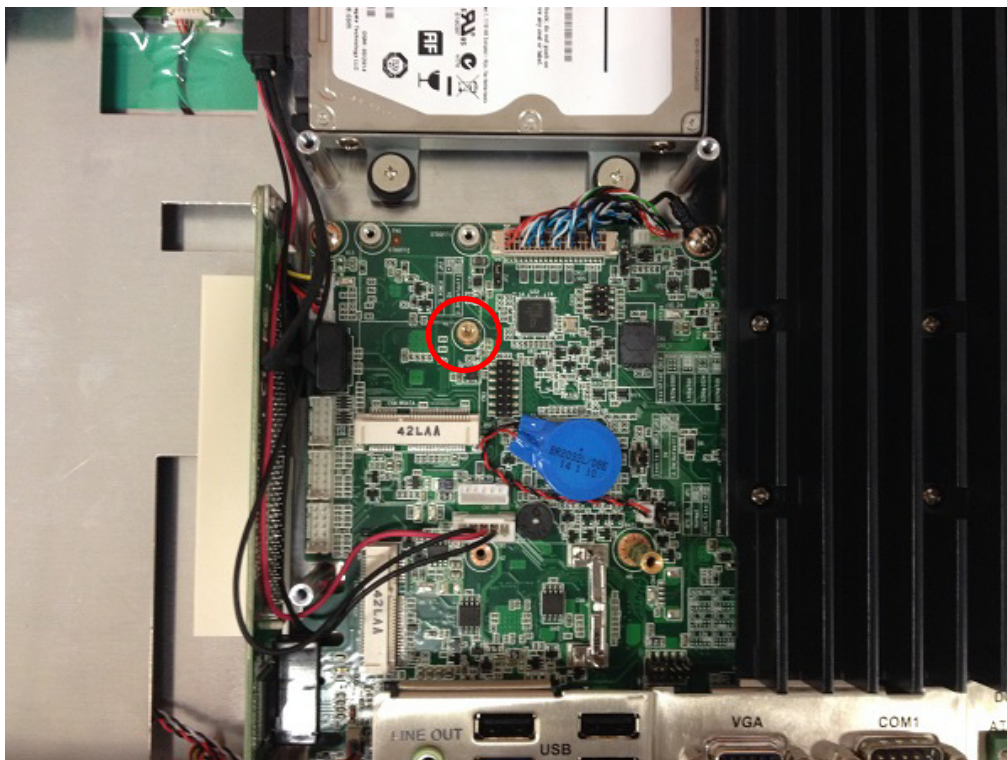
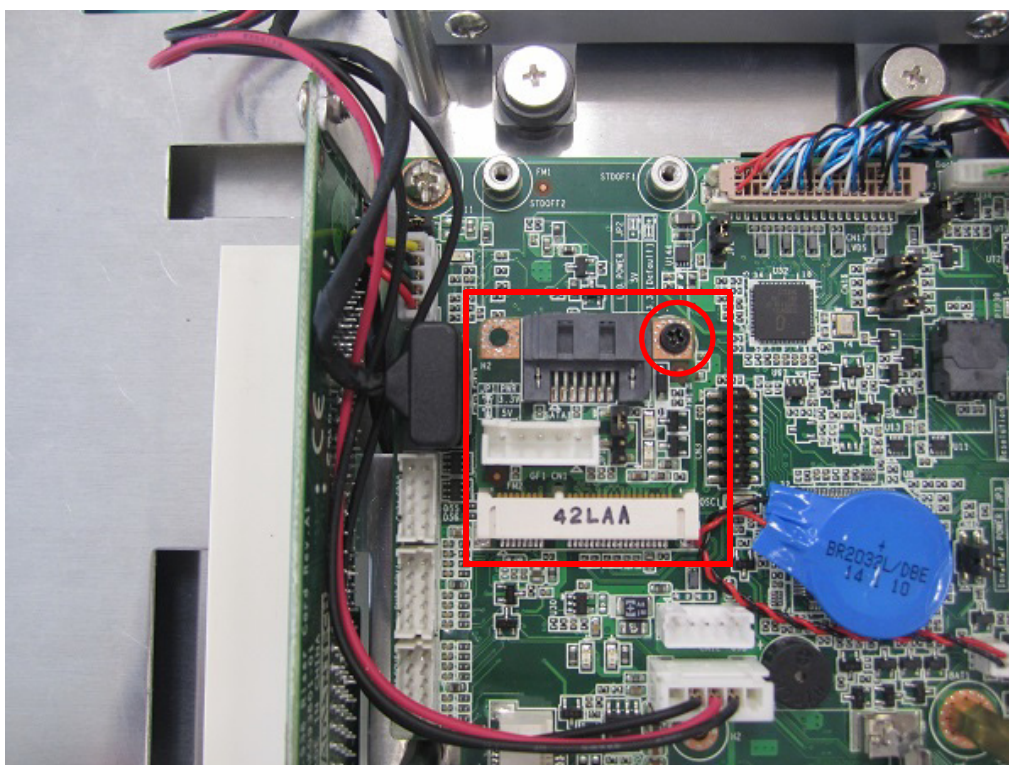

Figure 2.41
Figure 2.42
- Retrieve a copper cylinder screw from the accessory box and affix it to the SATA micro ATX board in the position circled in red in Fig. 2.41. Then use a screw to secure the mini SATA to the SATA micro ATX board (the position is indicated with a red rectangle in Fig. 2.42).